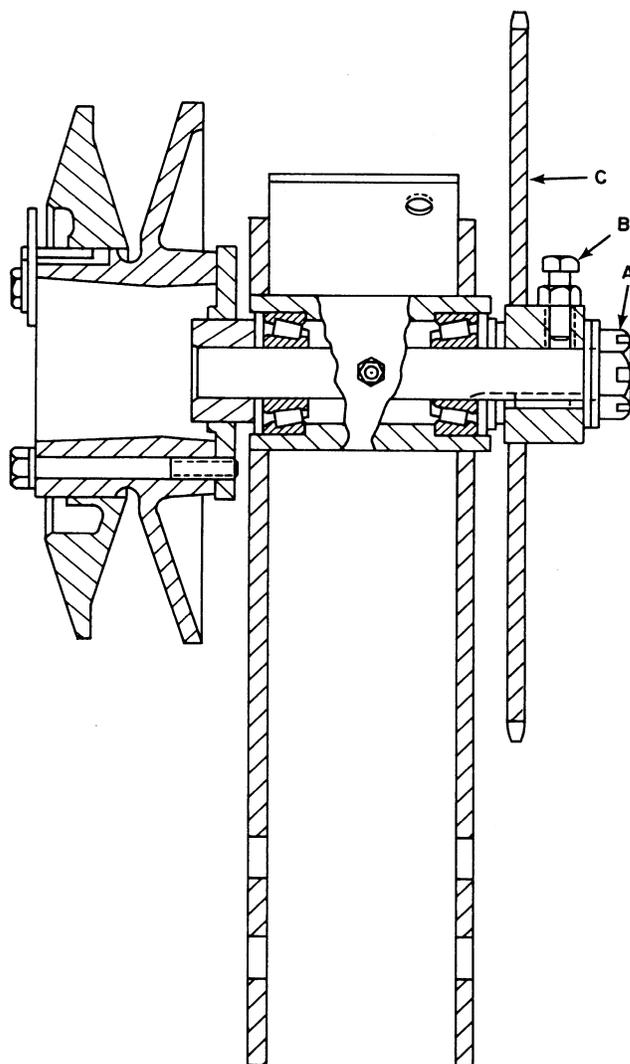

FIGURE 11
3. Remove the cotter pin and nut, A, Figure 11.
1. Install the tapered roller bearings as shown in Figure 11.